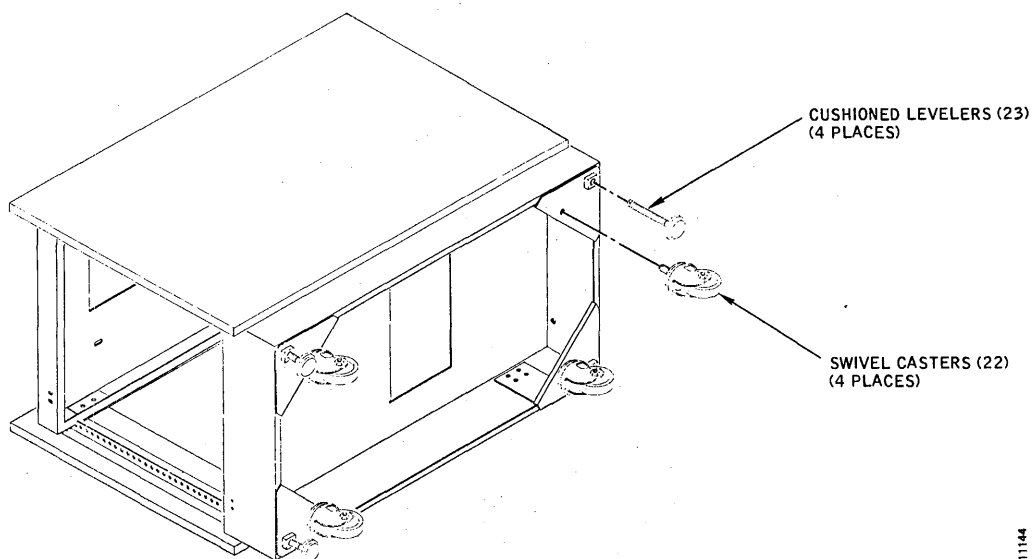

Figure A-4. Stand Assembly, Step 7
7. Install four Swivel Casters (22) and four Cushioned Levelers (23) to the Frame Bottom member of the assembly, as shown in Figure A-4. Screw the levelers in far enough so that they will clear the floor by about 1/4 inch, and set the assembly upright upon its casters.